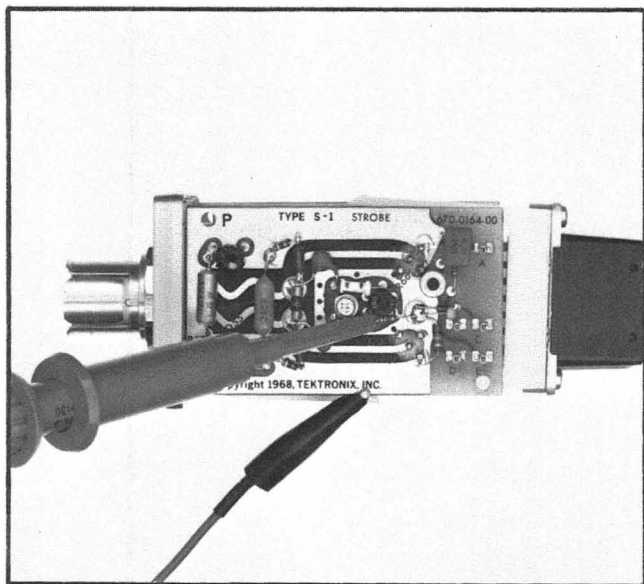
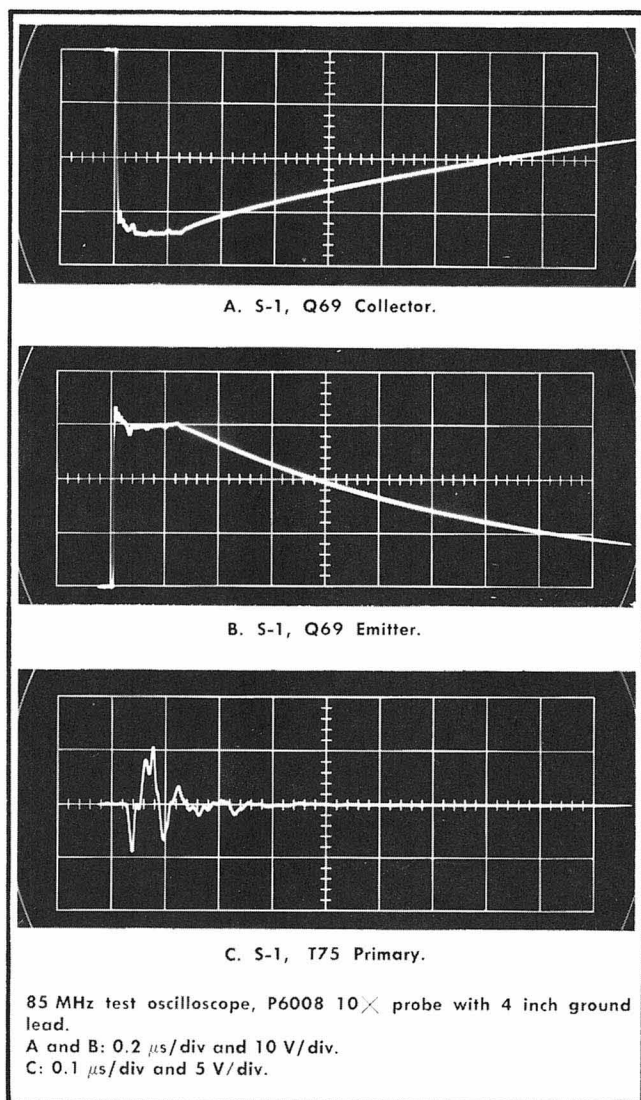

Fig. 5-2. Test oscilloscope 10 \times probe connected to Q69 emitter.
Fig. 5-3. Checking Avalanche drive and output.
d. Use the test oscilloscope with 10 \times Probe to check for proper operation of Q69. The probe connections are shown in Fig. 5-2, and the general nature of the signals is shown in Fig. 5-3. Fig. 5-3A and B show the general amplitude for Q69 collector and emitter signals in the Sampling Head. Fig. 5-3C shows the typical drive signal at T75 primary (square terminal E) while the head is on the extender cable.
If T75 is receiving drive, but there is no signal out of Q69, change Q69 (changing Q69 may significantly increase the displayed noise, so it is best to have several transistors of this type on hand and grade them for low noise using step 11). If all signals of Fig. 5-3 are present, check the Preamplifier output (square terminal D). If there is no signal at the Preamplifier output, check the sampling diodes and Q31 in the following manner.